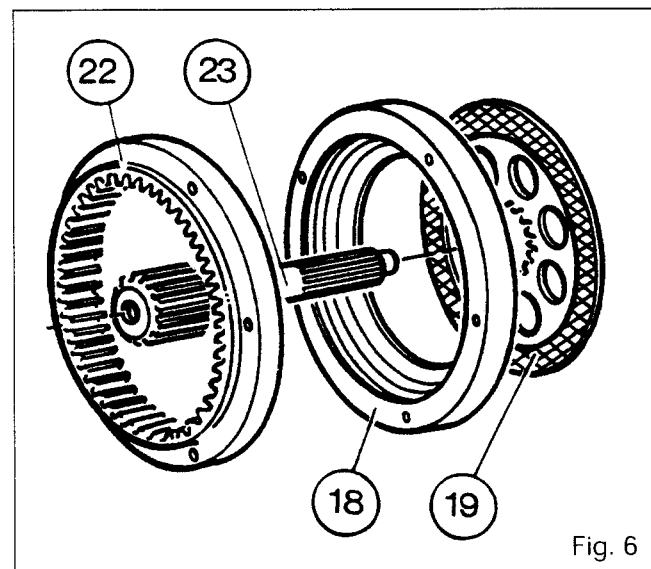

Fig. 6
20. Check that the disk (19) slides freely on the planetary shaft (23) (Fig.6).
21. Refit the locating dowel (27), the planetary shaft (23) and the brake disc (19).
23. Refit the brake plate (18) in the trumpet housing.
**Note:** To retain the plate, apply three spots of "Amber Technical" grease or an equivalent product to the surface of the ring gear (22).
**Note:** Turn the shaft (2) to engage the planetary shaft (23) in the planetary gears.
25. Clean the bolts (20) and coat them with Plastex, Hylomar or an equivalent gasket sealant.
26. Fit and tighten the bolts (20) to a torque of 170-210 Nm.